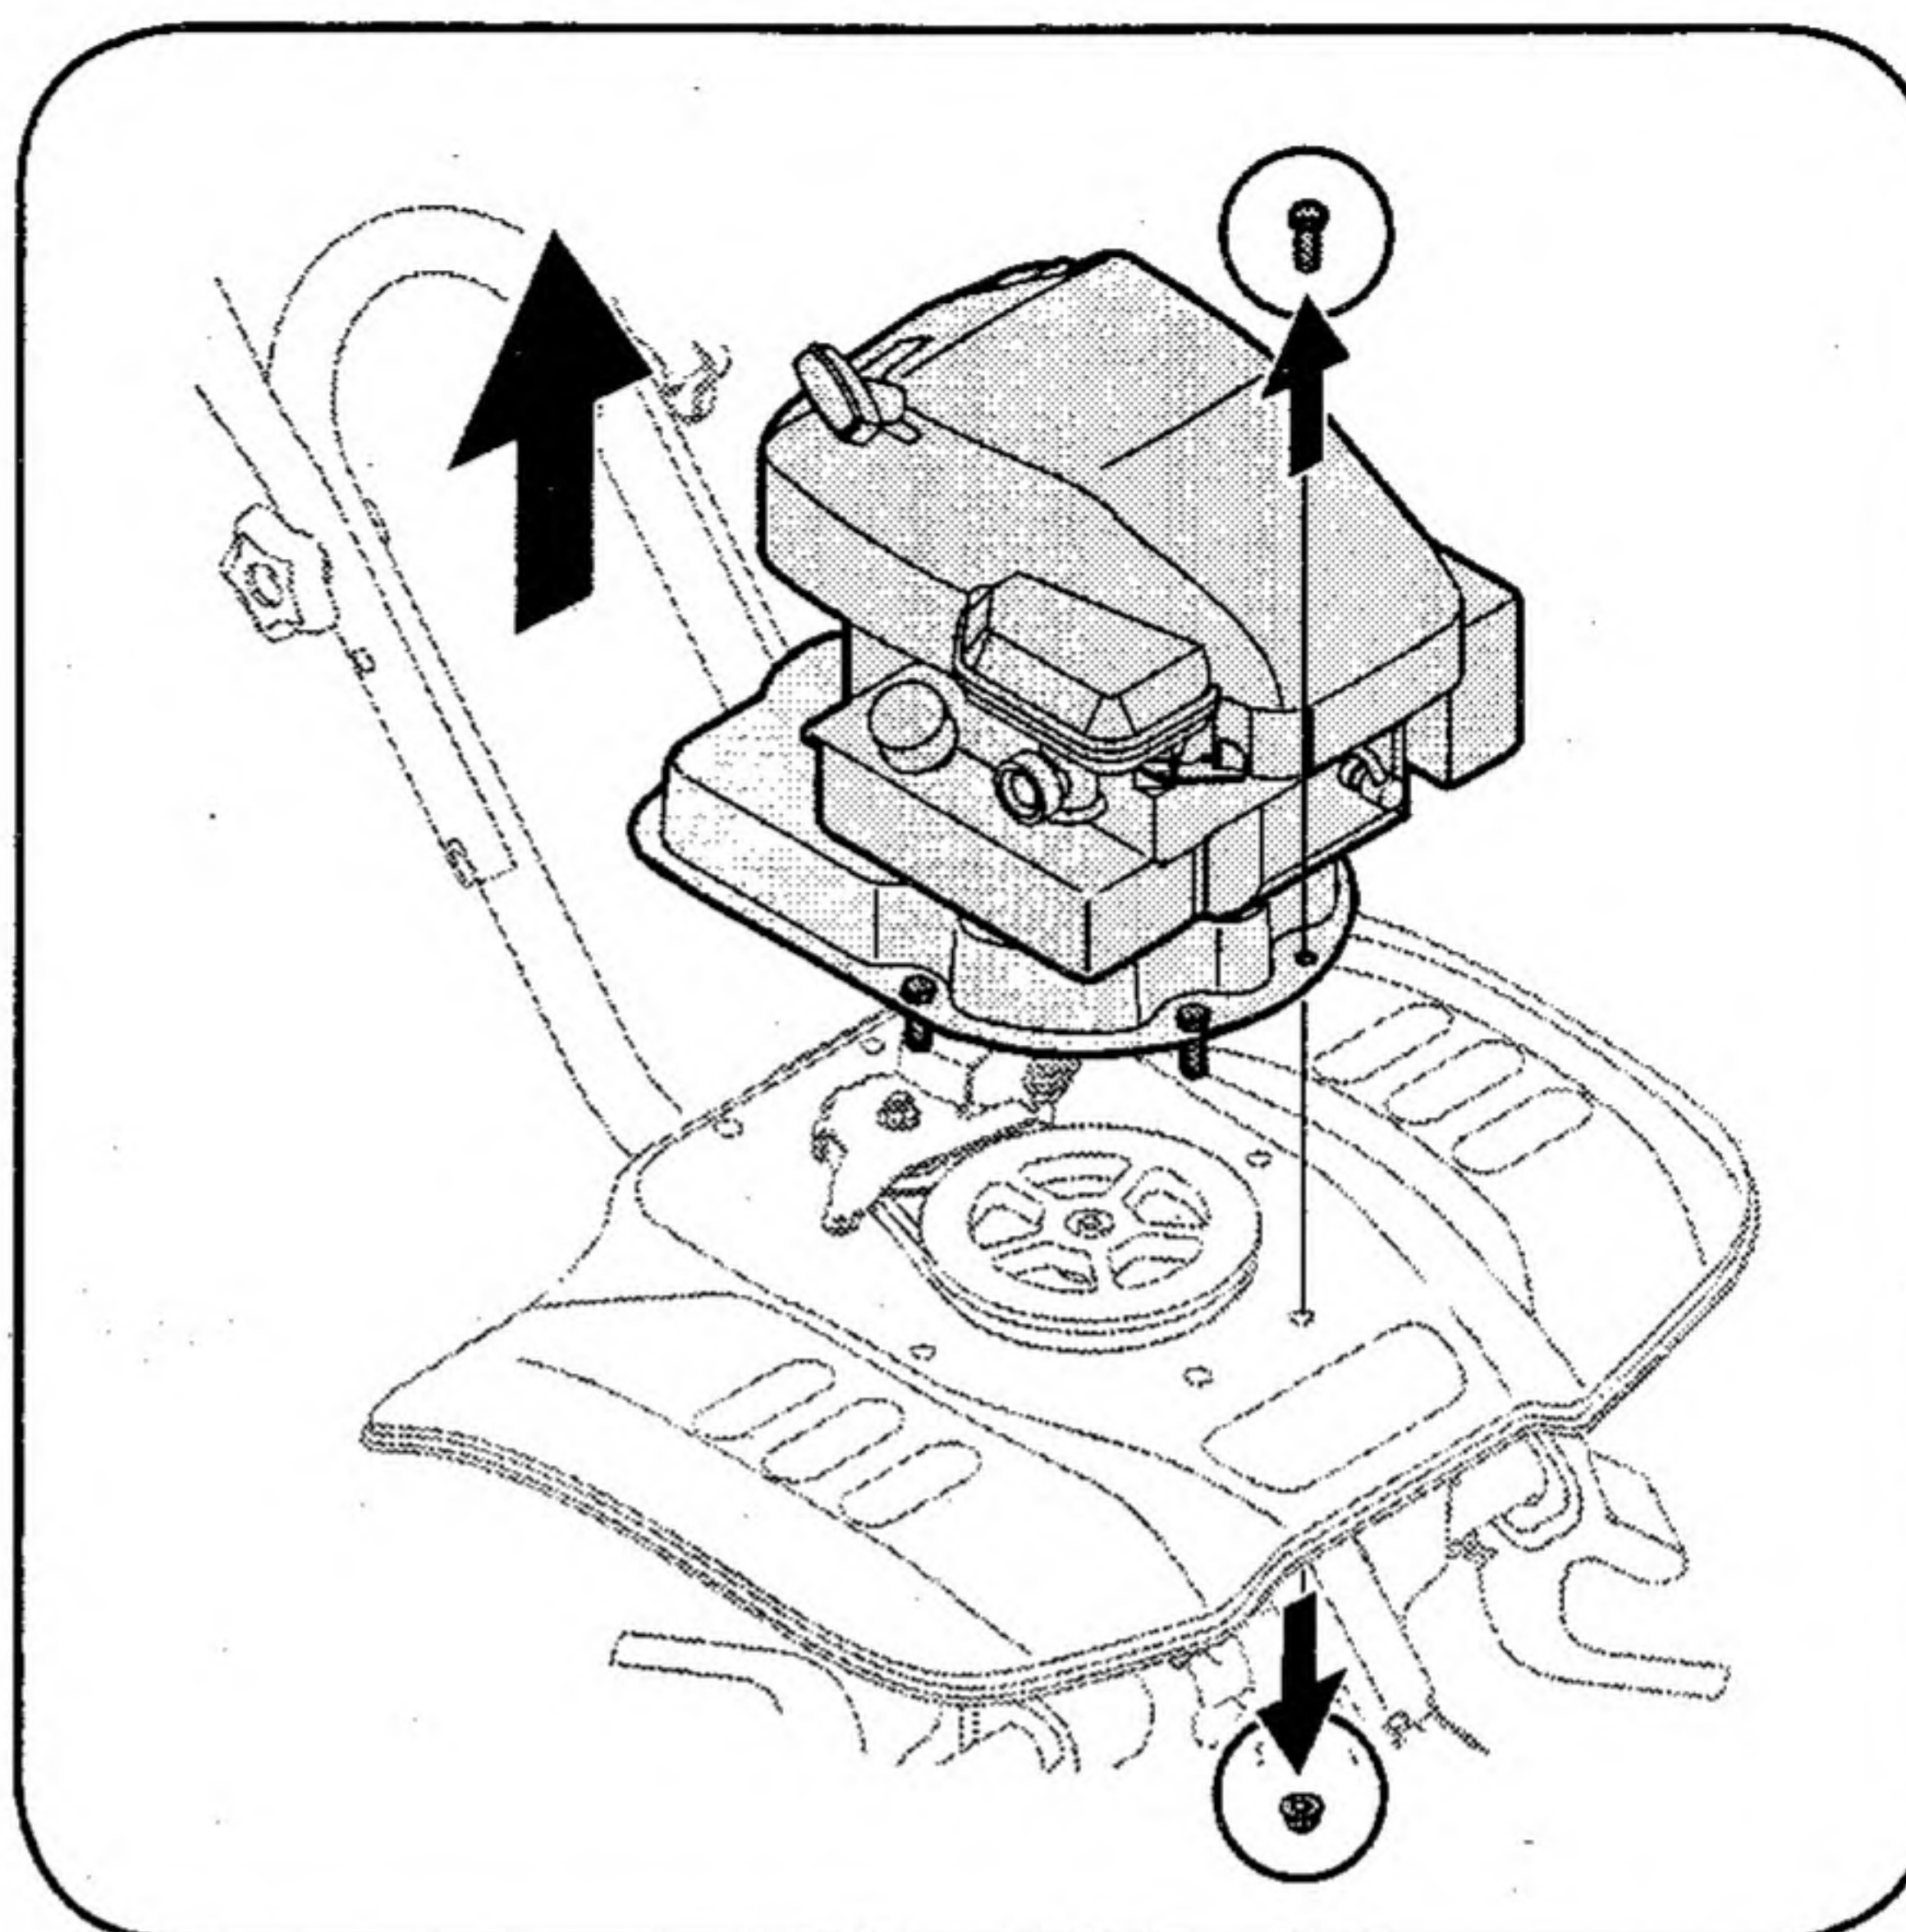

Figure 6-1: Remove engine and cover to access the belt.
1. Remove the belt cover and engine by removing the six screws and lock nuts holding the engine and cover to the shield, Figure 6-1.